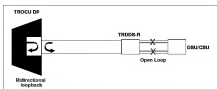

Figure 7. TROCU DP Bidirectional Loopback Normal Mode
- Fit the end of the hose **B2** to the wall flange **B1** as shown in fig. 7.
If the TROCU DP bidirectional loopback is invoked after the TRDDS-R achieves synchronization, the TRDDS-R will not pass or receive data from the CPE or DDS test set. This is consistent with current DDS testing methods and is referred to as the TROCU DP bidirectional loopback normal mode. For testing purposes, the installer may choose to initiate the TRDDS-R to pass-thru mode. Once the bidirectional loopback is executed in normal mode, unseat and reset the TRDDS-R and allow the unit to train-up. Once trained, the TRDDS-R will revert to pass-thru mode for further testing. Refer to **Figure 7** for TRDDS operation during bidirectional loopback in normal mode.